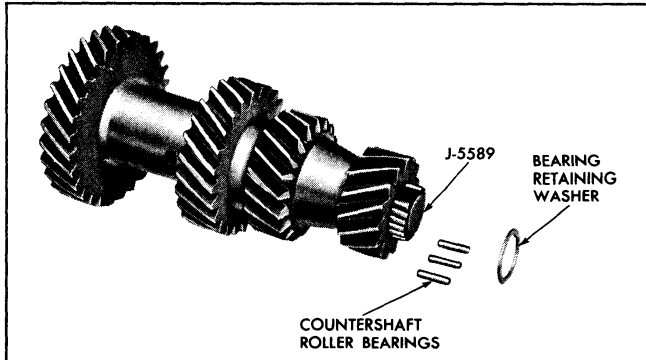

Fig. 7A-20 Installing Roller Bearings in Countershaft
14. Install sleeve, hub, and synchronizing ring assembly on mainshaft, clutch sleeve shoulder to rear, and secure with clutch hub retaining snap ring (Fig. 7A-17).
2. At one end of countergear, install one row of 20 roller bearings, laying them around bearing loader J-5589 and seating them against bearing spacer (Fig. 7A-20).
8. Place smaller bronze thrust washer against rear of countershaft, tangs facing gear and seated in grooves. Retain with grease (Fig. 7A-16).
1. Install oil retaining washer (Fig. 7A-14), on main drive gear, depressed side up.